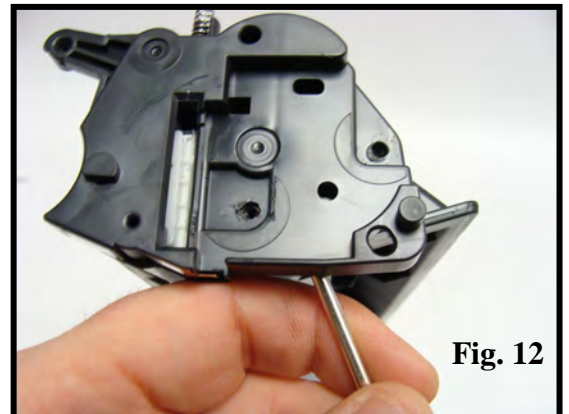

Fig. 12
12. This will break the weld beneath the end cap (Fig. 12).